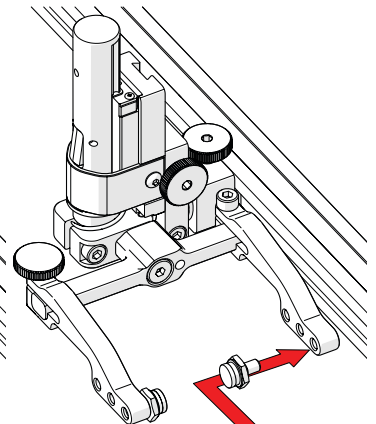

Fig. 54 - Place buttons
3. Position the pivot buttons where necessary. When a narrow scanning footprint is required, use the pivot button holes closest to the yoke (Fig. 54).